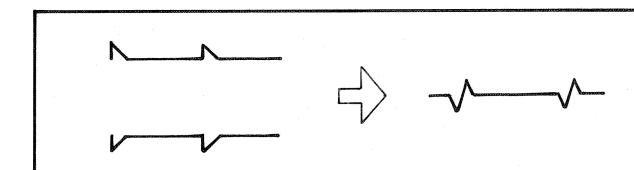

Fig. 26
- (1) Connect oscilloscope (with V gain at maximum) to TP4 pin 1 (CH1).
- (2) While pressing any two keys, adjust OFFSET VR5 of CH1 so that the pulses are minimized. (Fig. 26)
- (3) Repeat steps (1) and (2) for TP4 pins 2–6 (CH2–CH6).